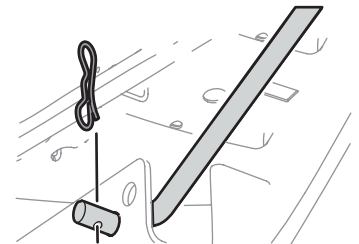

Figure 25
7. Pull the bow-tie pin out of the front deck lift rod securing it to the deck. See Figure 25. Slide the deck lift rod out of the front hanger bracket.